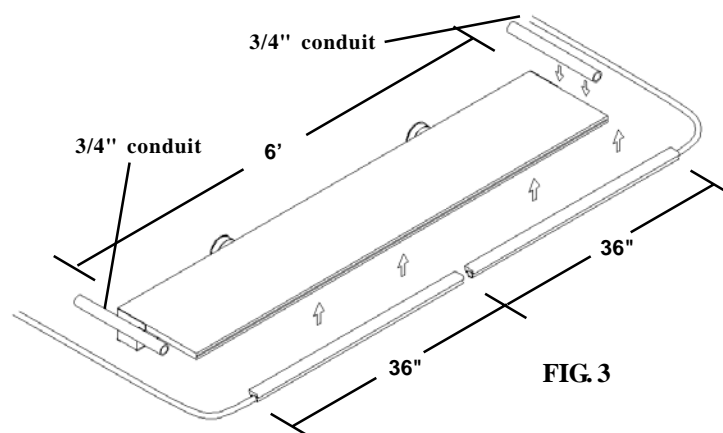

FIG. 3
- Insert the bare fibers into the insert so that ALL fibers protrude past the insert end (Fig. 3). Tighten the port compression nut down on the fiber casing (Fig. 4). If fiber casing will not go into the compression fitting then install the rubber bushing into the fitting half-way. (Fig 2a) Then insert the bare fibers until the fiber casing is in contact with the bushing. Tighten the port compression nut down on the bushing.
2. When using multiple light bars to light waterfalls longer than 48", install two 3/4" conduits, one on each end of two waterfalls (see Fig. 3). You will use one standard Lightbar and one Reversed Lightbar.